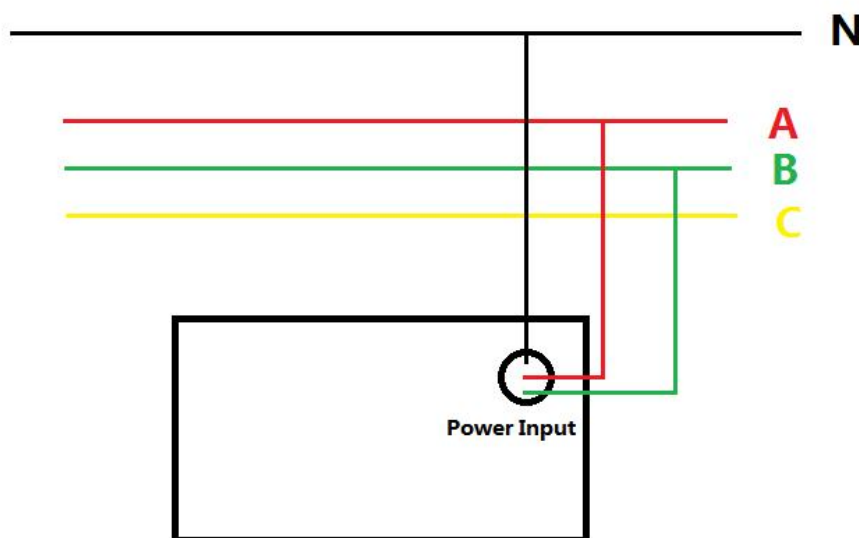

Figure 2. Power Connection
4. Connect the power supply, **2-phase 380V+neutral wire (N)**. The "Power Indication" lights up and the device is powered on.(Figure 2)